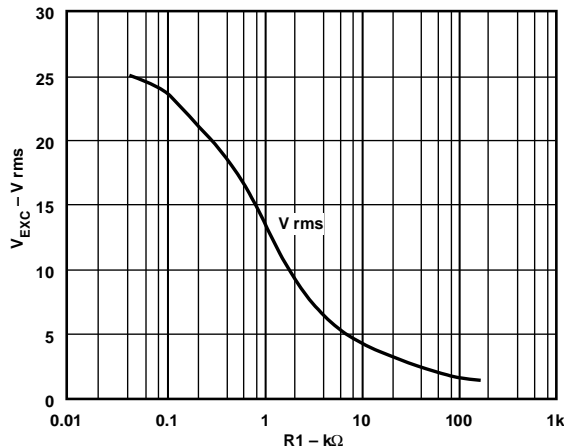

Figure 9. Excitation Voltage V_{EXC} vs. $R1$
- Referring to Figure 9, for $V_S = \pm 15 \text{ V}$, select the value of the amplitude determining component R1 as shown by the curve in Figure 9.